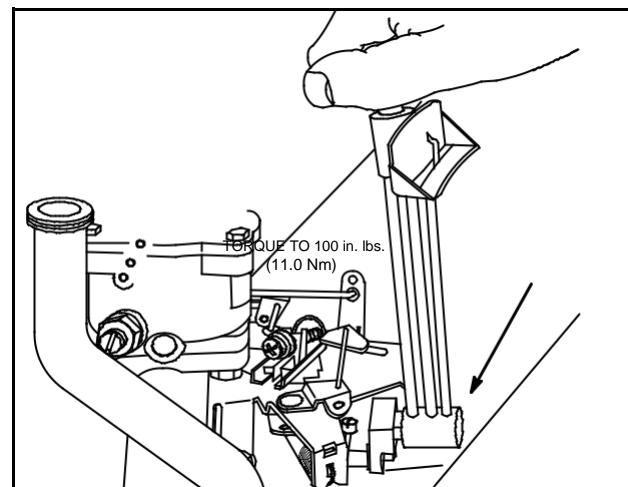

Fig. 25 – Static Governor Adjustment
2. Rotate governor shaft counter-clockwise as far as it will go, Fig. 25.